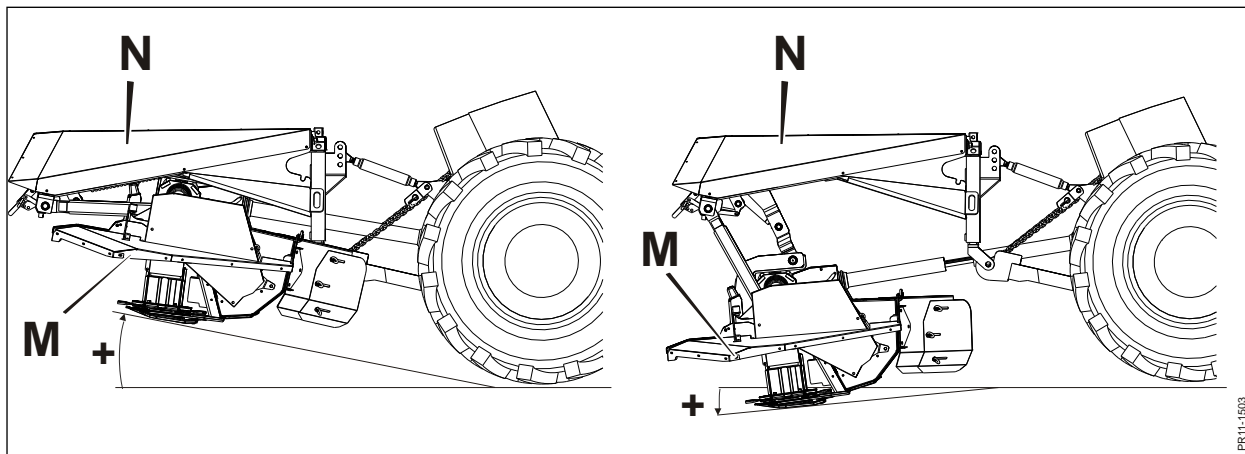

Fig. 3-4
**Fig. 3-4** When the ground in front of the machine slopes down, the cutting unit **M** moves downwards in relation to the headstock **N**. Simultaneously the cutter bar turns forward whereby the stubble height stays at the wanted length.